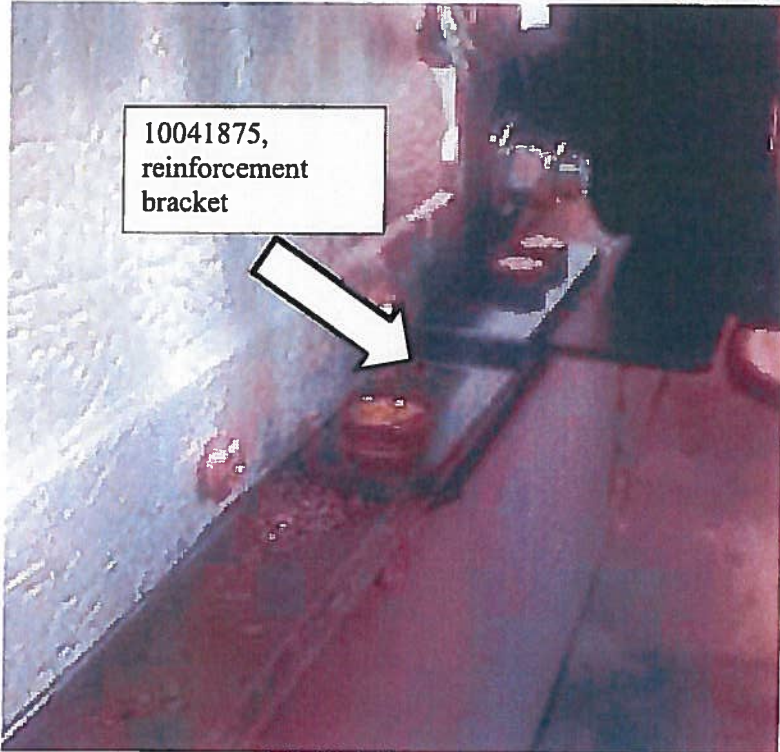

Figure 4
2. Place the new reinforcement bracket (10041875) into position and reinstall the two fasteners. Reference Figure 3 and Figure 4 for bracket location. Tighten fasteners snugly but do not torque.
4. Clean away metal shavings and install new 3/8" capscrew (00803213) and nut (02171809). Reference Figure 4 for an installed reinforcement bracket.
6. Torque two (2) existing 5/16" nut(s) to 12-13 ft. lbs.